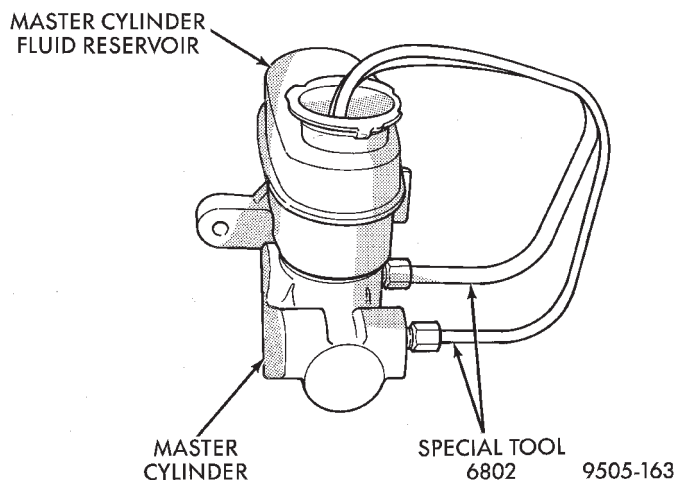
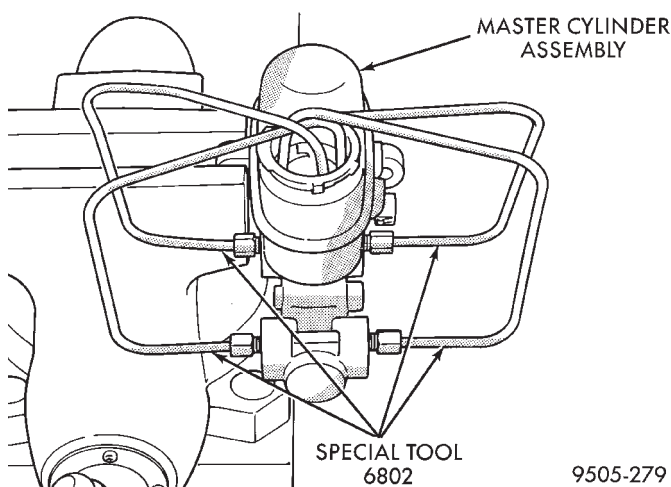
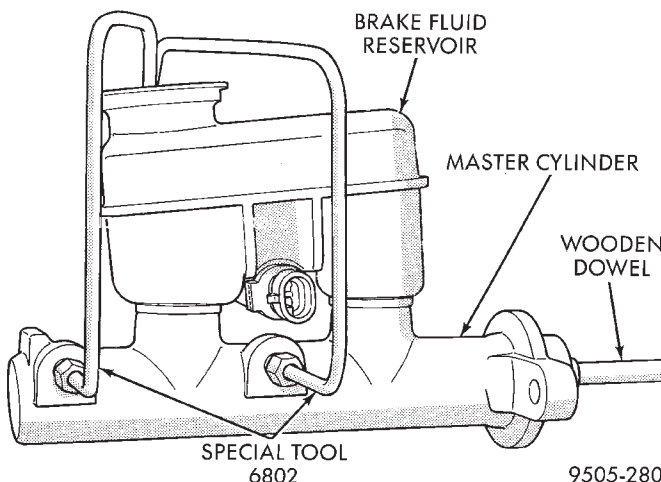

**Fig. 32 Bleeding Tubes Attached To Master Cylinder With ABS**
**Fig. 33 Bleeding Tubes Attached to Master Cylinder With Out ABS**
**Fig. 34 Bleeding Master Cylinder**
(1) Clamp the master cylinder in a vise. Attach Bleeding Tubes, Special Tool 6802 to the master cylinder outlet ports (Fig. 32) or (Fig. 33). Position bleeding tubes so the outlets of the bleeding tubes will be below the surface of the brake fluid when reservoir is filled to proper level.
(2) Fill brake fluid reservoir with brake fluid conforming to DOT 3 specifications such as Mopar or an Equivalent.
(3) Using a wooden dowel per (Fig. 34). Depress push rod slowly, and then allow pistons to return to